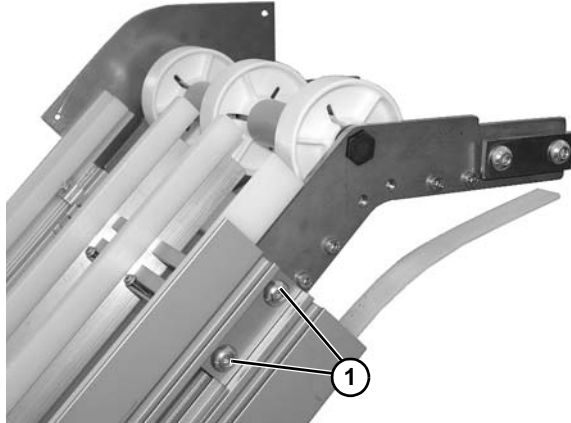

Figure 111
8. Loosen two socket head screws (Figure 111, item 1), holding upper knuckle to frame. Repeat on other side.